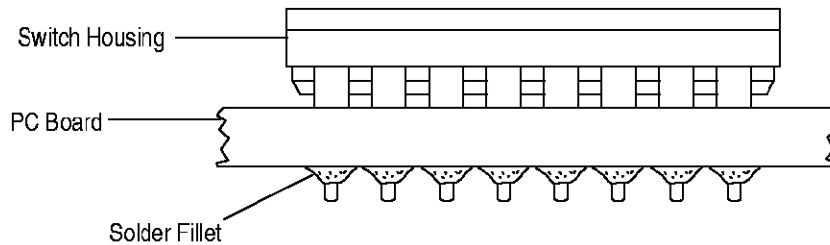

Figure 8
1. The switch must have solder fillets evenly formed around each contact solder tine as shown in Figure 8.